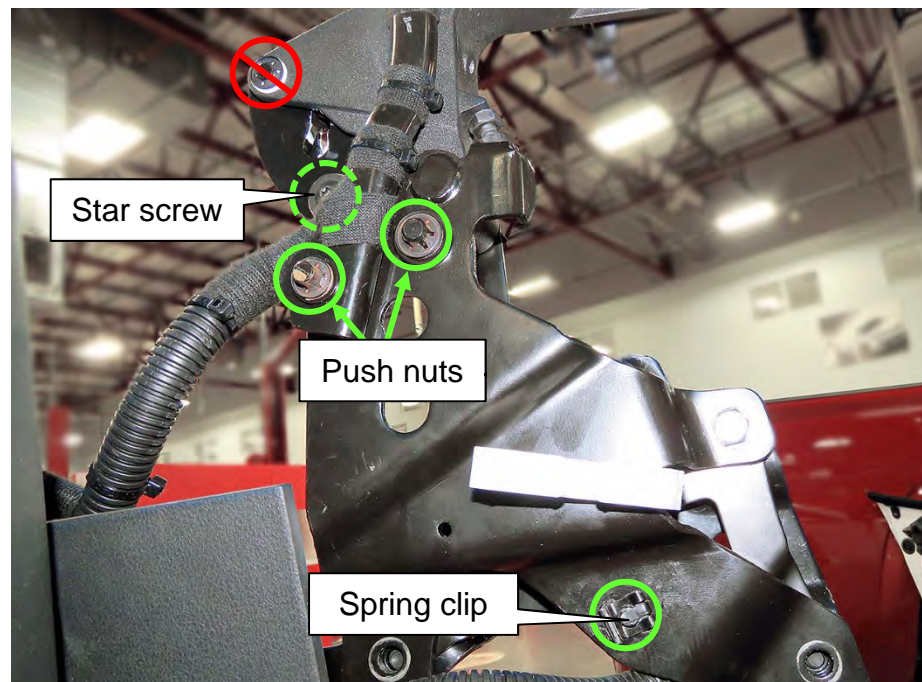

Figure 172
182. Remove two (2) push nuts and discard (Figure 172).
183. Remove one (1) spring clip (Figure 172).
184. Remove one (1) star screw (Hidden in Figure 172 behind harness).